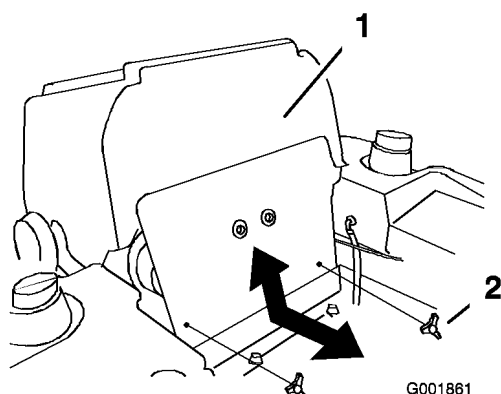

Figure 61
3. Tilt the seat forward and remove the front engine panel (Figure 61).
7. Install the front engine panel (Figure 61).